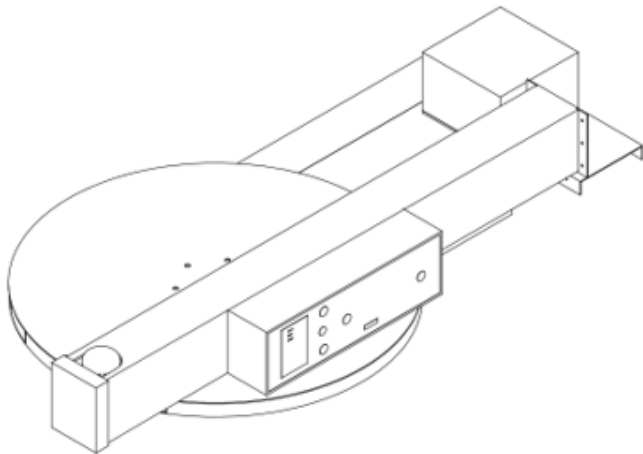

FIG2-6
1. Use a crane (or forklift) to carry the machine out of the packing and place it onto the ground horizontally see FIG2-6;